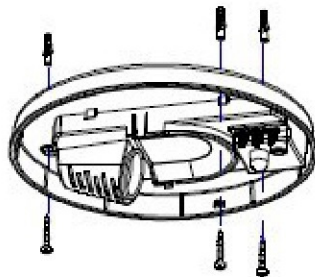

fig.2
5. Screw the base into place(see fig.2);